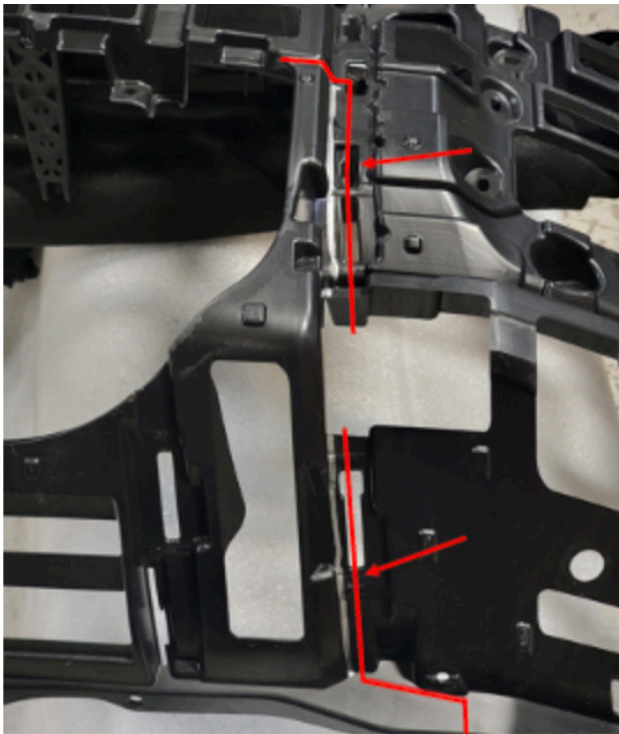

Figure 24.
20. Mark a line shown below around the center part of the bumper (driver and passenger sides) as shown below for trimming. Figure 24.